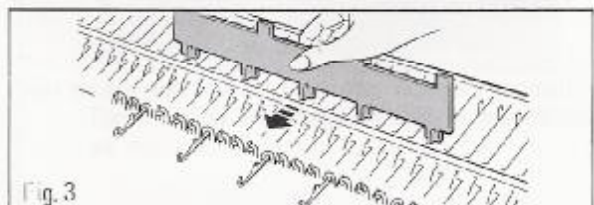

Fig. 3
5. Counting from the left end needle, push third needle and then every fourth needle to D position, and repeat steps 3 – 4. (Fig. 3)